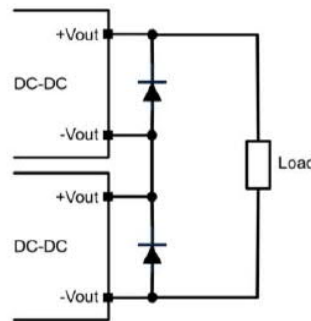

Fig. 4-1 Series Connections
- It's available to connect output pins of multiple AC-DC converters as Fig. 4-1. They offer more flexible applications.